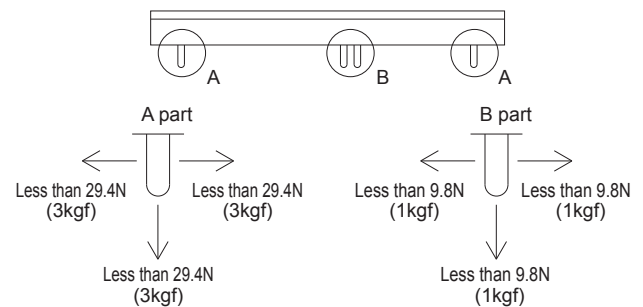

Fig.6.1 Stress onto the pins
■When too much stress is applied to the pins of the power supply, the internal connection may be weakened. As shown in Fig.6.1 avoid applying stress of more than 29.4N(3kgf) on the input pins/output pins(A part) and more than 9.8N(1kgf) to the signal pins(B part).